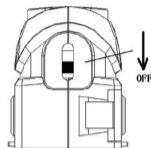

Fig. 1
1. Make sure that the laser is at OFF state. (see Fig. 1)